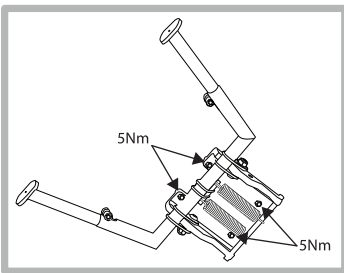

Figure 4
3. Align kickstand with frame and tighten mounting hardware. Alternate hardware being tightened to ensure that U-bolts and boom strap remain square to the tubes and kickstand is secured evenly. Note: It will be necessary to move the kickstand legs to access the U-bolt nuts. Do not over-tighten the hardware securing the boom strap. If the boom strap starts to deform, the setup is tight enough (Figure 4).